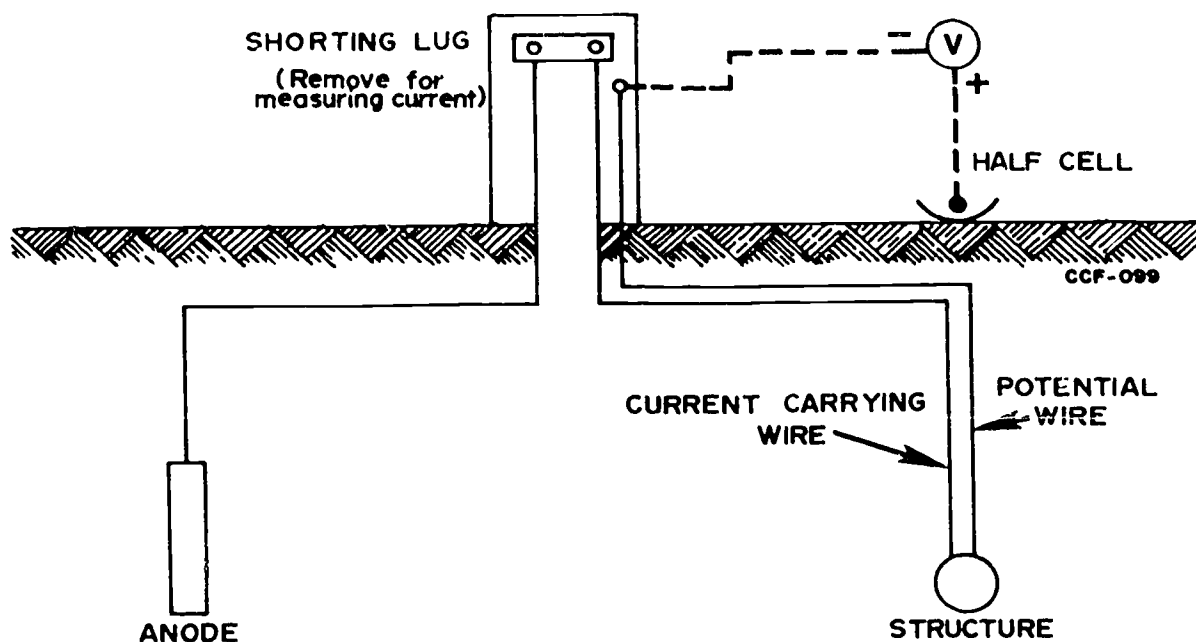

Figure 4-18. Surface type potential-current stations.
The negative terminal of the voltmeter is connected to the structure and the positive terminal to the electrode of a copper-copper sulfate half-cell, and the potential is indicated by the voltmeter. The measured potential is said to be "referred to a copper-copper sulfate half-cell." Other types of half-cells are available, however, in actual practice, they are almost never used. This potential value, measured against our standards, will tell the operator whether or not the structure is adequately protected at the point of test. For example, remember that iron and steel structures were adequately protected at a potential of -0.85 volt or more. Any sudden changes in potential indicate either some outside influence (such as stray current) or a change or failure in the cathodic protection system. The basic arrangement of components is shown in figure 4-18.
a. **Structure-to-electrolyte potential.** The primary measurement to be made is that of structure-to-electrolyte potential, since this determines the adequacy of protection. Figure 4-18 shows the basic arrangement for making this measurement. The following spacing of potential measurements shall be made initially and annually. In congested areas, structure-to-electrolyte (soil) potentials shall be measured at service risers and at points over the main farthest from the anodes. Potential measurements over long pipelines shall be made at points farthest from the anodes, but in no case farther than 1000 feet. The measuring and recording of structure-to-electrolyte potential can be used to determine the level of protection and the trend of changes in protection. Gradual changes in potential are indicative of anode corrosion, changes in soil resistivity, or distant interference, shorted insulation, or changes in piping.